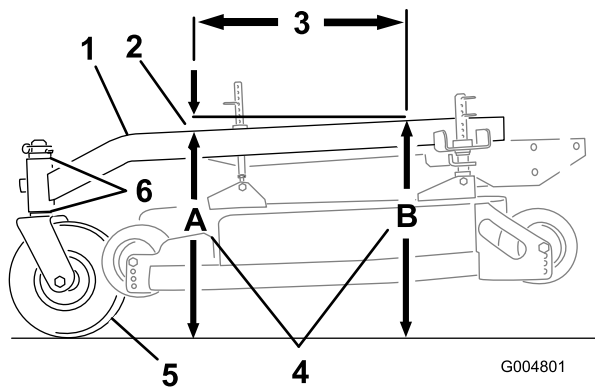

Figure 64
The carrier frame must have a pitch between 3 mm (1/8 inch) to 9 mm (3/8 inch) over the length of 61 cm (24 inches) on the carrier frame (Figure 64).
1. Measure out 61 cm (24 inches) on the carrier frame (Figure 64).
2. Measure carrier frame height at location A (Figure 64).
3. Measure carrier frame height at location B (Figure 64).
4. The height at location A must be a 6 mm -10 mm (1/4-3/8 inch) lower than location B (Figure 64).
5. If the carrier frame is not correct, move caster spacers to make it a 6 mm -10 mm (1/4-3/8 inch) pitch (Figure 64).